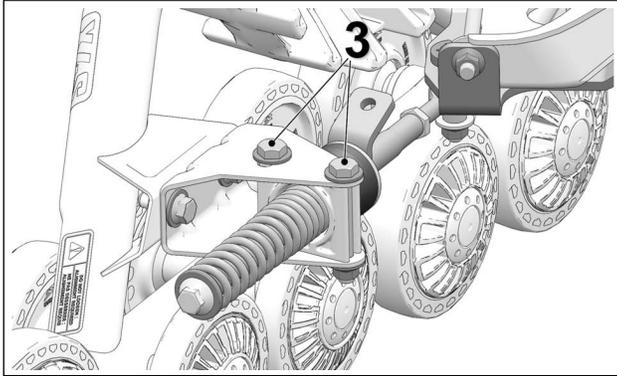

Figure 17
- Re-tighten anti-rotation bracket bolts (3) to 50 Nm [37 lb-ft] of torque. See Figure 17.